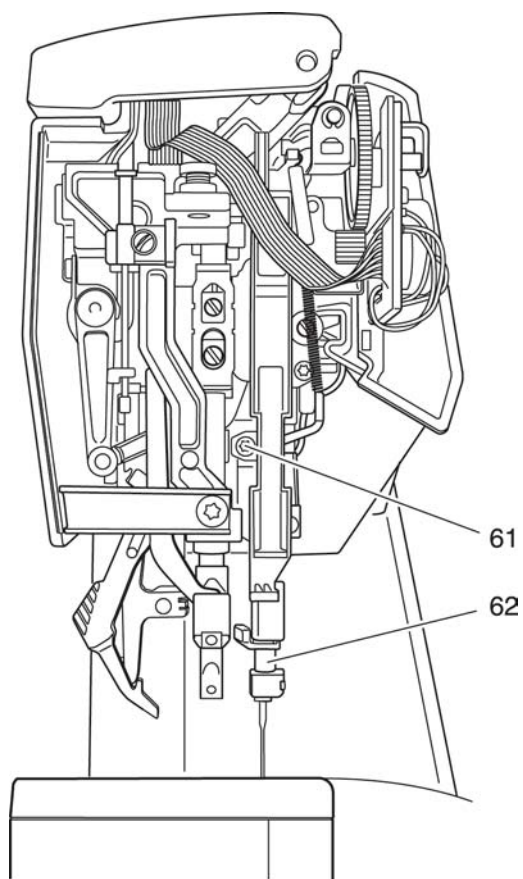

Fig. 16b
- Loosen screw 61 just a little (fig. 16b).